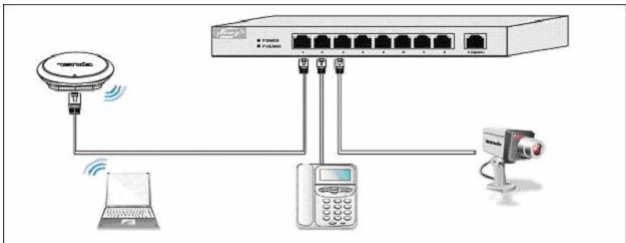

Figure 3-2 Installation with Powered Devices
Step 2: Use another RJ45 Ethernet cable connect a downstream network device to downlink port. PoE-capable ports can access PDs such as an AP, IP phone, IP camera, shown as Figure 3-2.